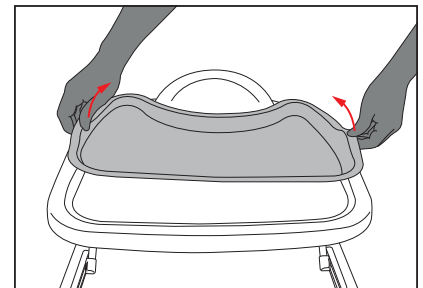

Figure 5.1
- To remove the tray insert, flex handles inward, push thumb down on the inner edge of the tray and pull up. **See Figure 5.1.**